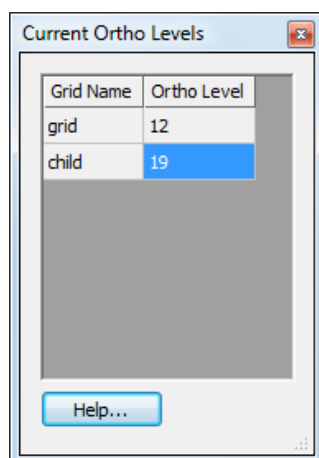

Figure 8 Current Ortho Levels dialog
7. On the Mini Grid Toolbar, turn on *Multiple grids* to bring up the *Current Ortho Levels* dialog (Figure 8).